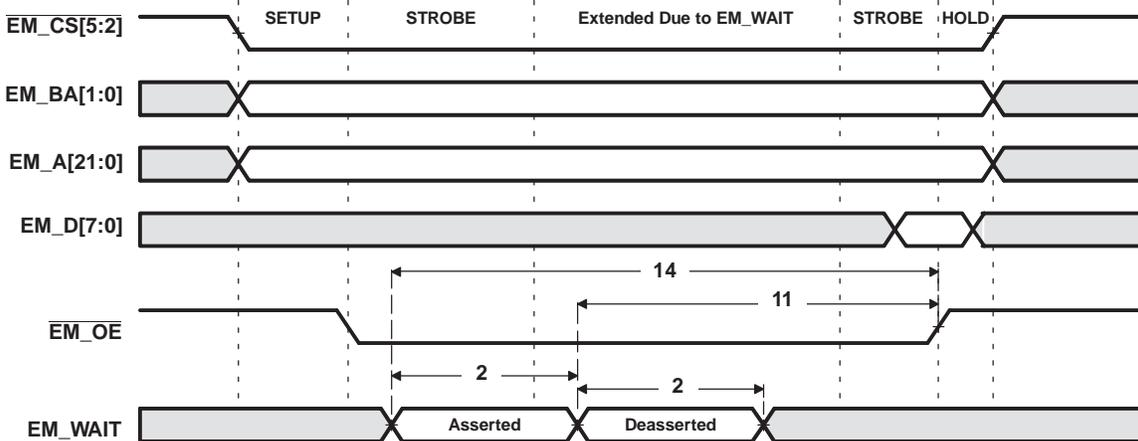
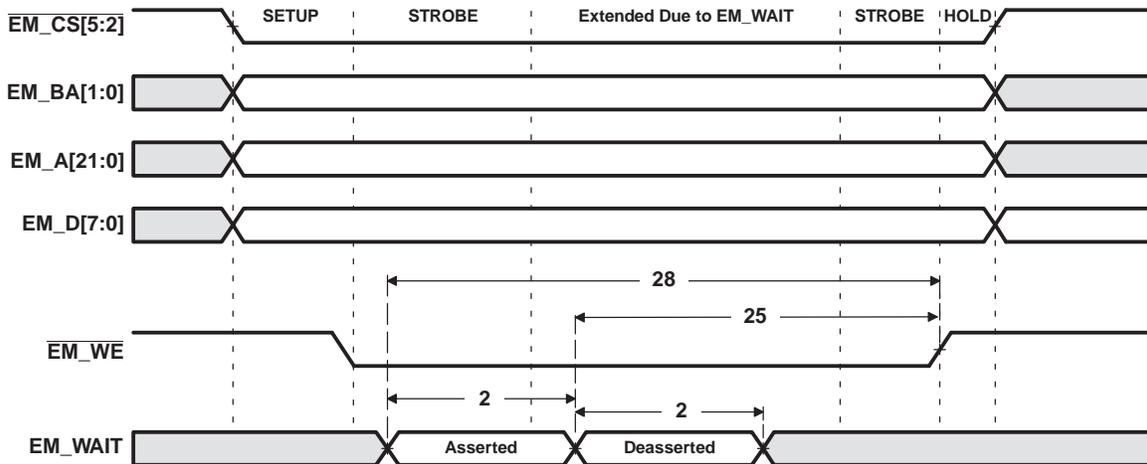

Figure 6-16. EM\_WAIT Read Timing Requirements
Figure 6-17. EM\_WAIT Write Timing Requirements
- (1) E = SYSCLK3 period in ns for EMIFA. For example, when running the DSP CPU at 600 MHz, use E = 10 ns.
- (2) Setup before end of STROBE phase (if no extended wait states are inserted) by which EM\_WAIT must be asserted to add extended wait states. Figure 6-16 and Figure 6-17 describe EMIF transactions that include extended wait states inserted during the STROBE phase. However, cycles inserted as part of this extended wait period should not be counted; the 4E requirement is to the start of where the HOLD phase would begin if there were no extended wait cycles.